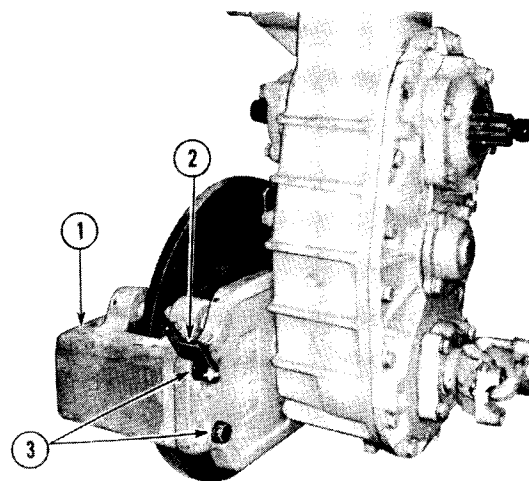

Figure 4-103
Install brake caliper (1, Fig. 4-103) on adapter plate. Install and tighten two cap screws (3). Measure the distance between brake disc and inner face of the guide pins on each side. Add enough shims between the adapter plate and brake caliper, to center brake disc between the guide pins. Install and tighten cap screws and lock washers.